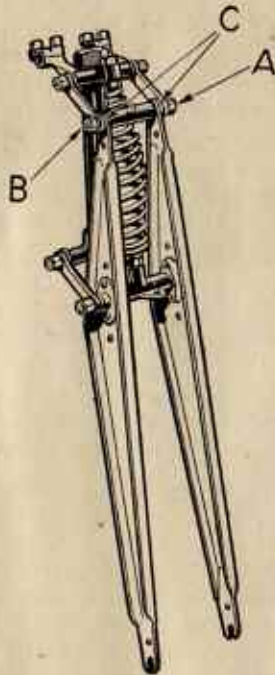

FIG. 18.
**Front Forks.**—The front forks on most models are of the motor cycle type, having a coil spring and fork links. If excessive play develops in the links they should be adjusted by loosening the locknut at the left-hand side of the fork (A in Fig. 18) and turning the spindle bolt head B in a clockwise direction, afterwards re-tightening the locknut. Each spindle should be adjusted separately. A knurled washer C will be found on each fork shaft and, when the adjustment is correct, it should be just possible to revolve the washer.